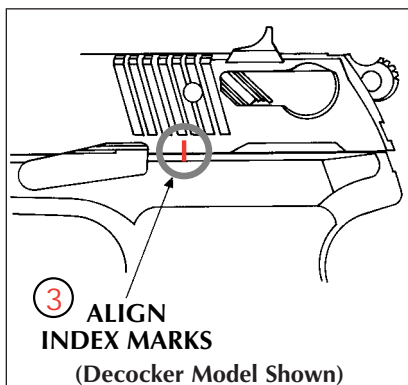
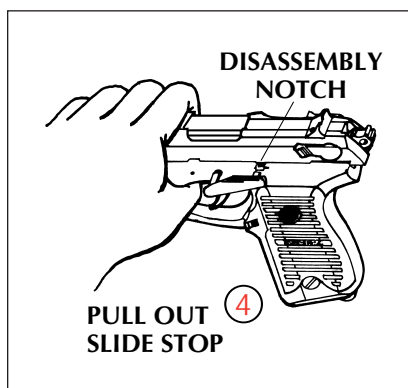

FIGURE 2
FIGURE 3
4. Remove fingers from ejection port. Grasp slide tightly. Now press down on slide stop and allow slide to move slowly forward until the vertical disassembly line on the frame is aligned with the vertical disassembly line on the slide (See Figure 2, below). Press in on right-hand end of slide stop and pull slide stop out of frame to the left until it is withdrawn completely out of the frame. (See Figure 3, below).